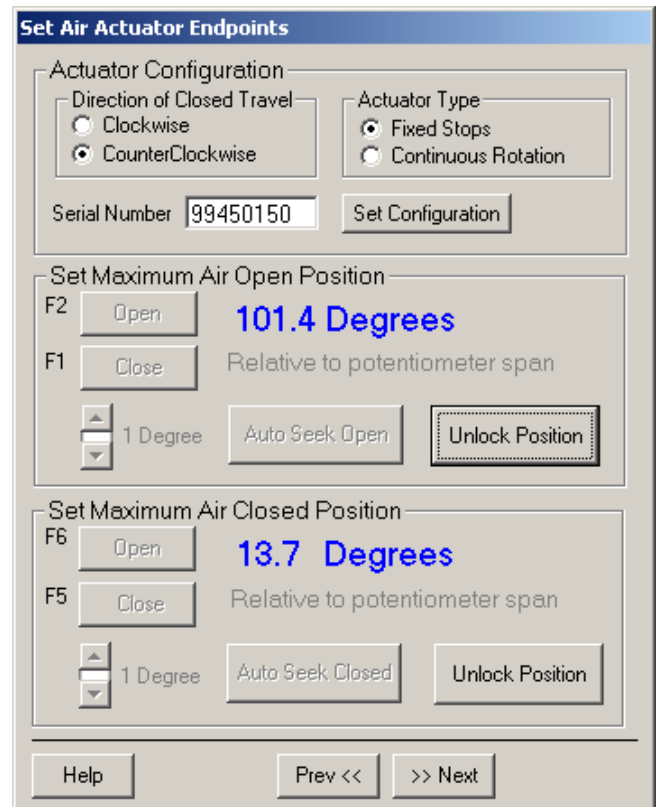

Fig. 13. Lock actuator open position.
9. Lock actuator open position. See Fig. 13.